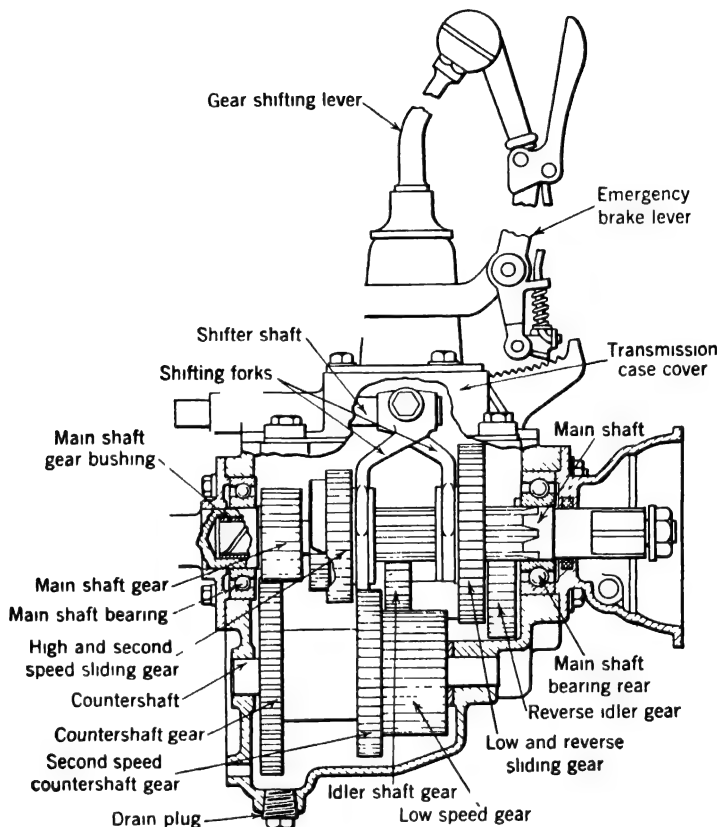
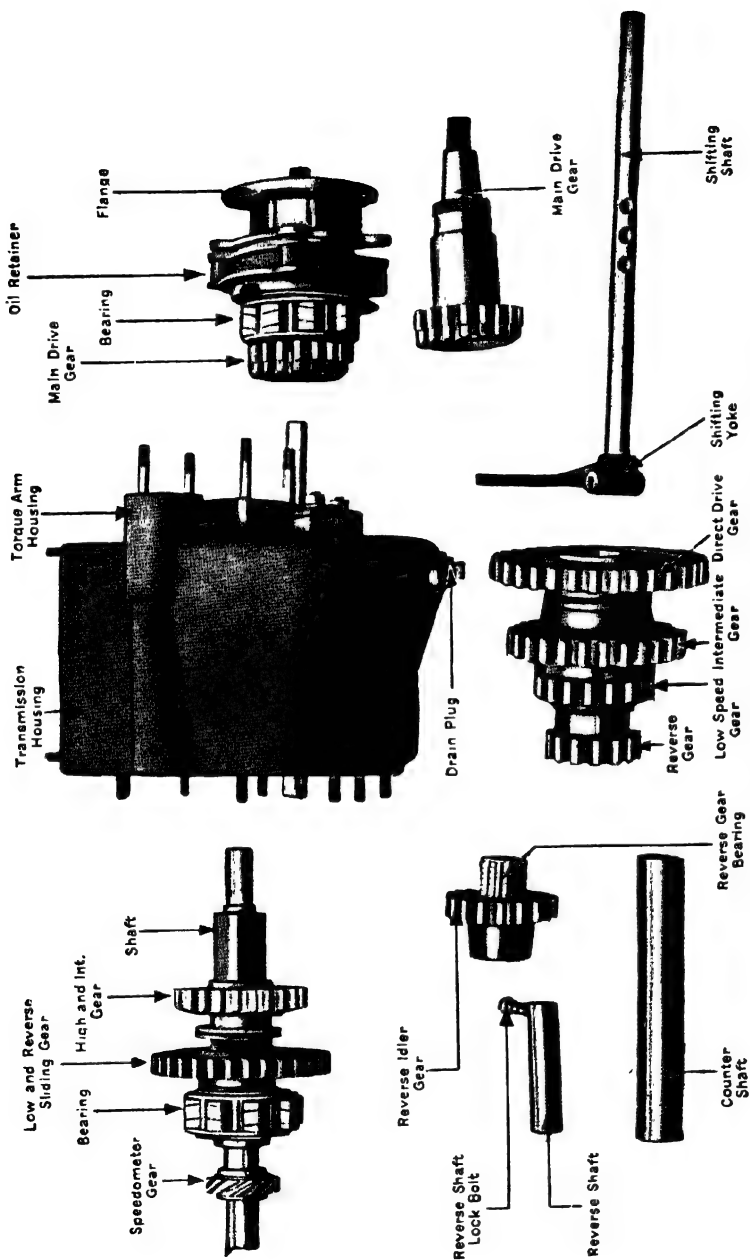

FIG. 34a. —Assembled Transmission.
FIG. 34b.—Sliding Gear Transmission Disassembled. (Marmon.)
ment of gears of different sizes produces the desired changes in speed and pulling power. The transmission shown in Fig. 34a has three speeds forward, the highest being direct with no reduction in the transmission, and one reverse speed. Reverse is obtained by introducing an extra gear or idler between the proper main and countershaft gears.
11. Are the shafts in Fig. 34a supported in plain bearings, ball bearings, or roller bearings. In Fig. 34b?
19. In Fig. 34a what type of bearing is used to support the spline shaft?